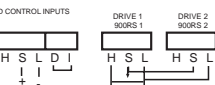

Fig. 3
5. External control by a 4-20mA or 0-20mA signal is shown in Figure 3. Note that terminals 'O' and 'I' are linked and the external input is between 'S' and 'L'. Calibration is as follows: